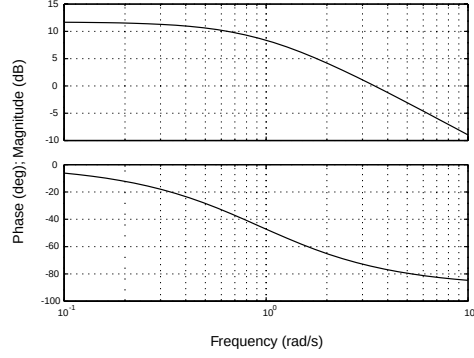

Figure 7: Magnitude and phase of $\frac{\Omega(s)}{U(s)}$.
- (c) The magnitude and phase are shown in Figure 7. This is a first order system. At low frequencies, the output velocity will follow the command input with a small phase lag. The DC gain (the